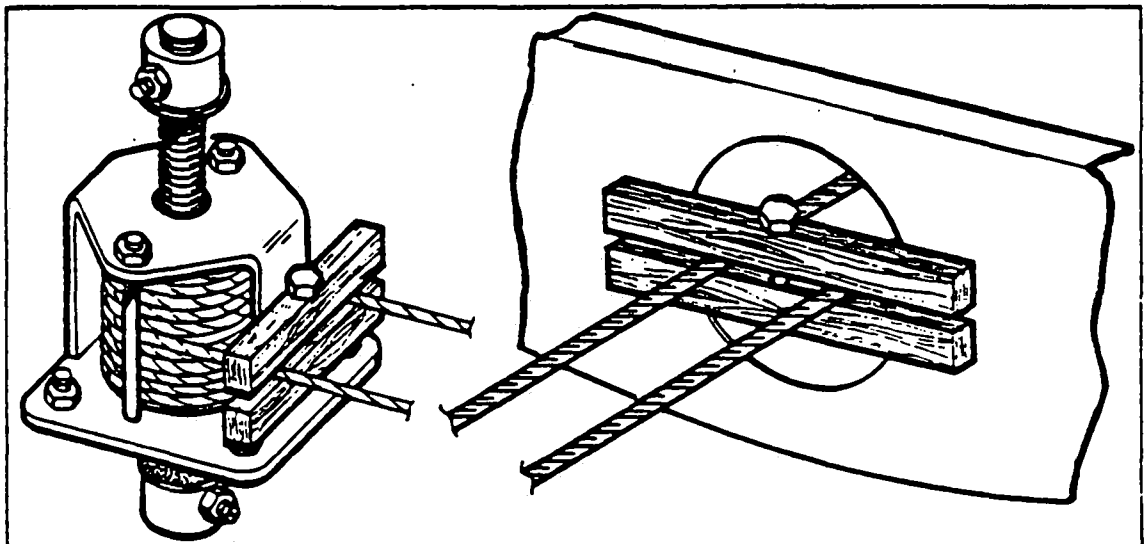

Figure 5-7. Methods of Blocking Trim Cables
- a. Remove the trim crank handle (25) from the overhead light panel by pressing upward on the light panel near the crank stem (27) and removing the clip from the stem.
- d. Trim cables (2) may be blocked to prevent the unwrapping of cables from the trim drum by removing the lower tail cone fairing and blocking the cables at the trim drum as shown in Figure 5-7.
- f. To facilitate withdrawal of cable through the tube guides (8) within the cockpit headliner, the following procedure may be used:
- d. Block the aft cables at trim screw assembly to prevent the unwrapping of the cable from the drum. The cables may be blocked as shown in Figure 5-7.
- g. Disconnect the trim tab control screw assembly from the tab control bellcrank assembly (34) by removing the cotter pin, castellated nut, washers and bolt from the bellcrank at the upper end of the control screw station 265.6.
- i. Remove the control cable drum housing (10), trim drum (16), and control screw (11) with stops by removing cotter pins, castellated nuts, and washers from both sides of the bracket support assembly.
- j. Draw the trim drum, bracket drum and cables out of the fuselage from the rear. The support brackets may be pried apart slightly to allow passage of the drum housing with angle (15) and bolts installed.